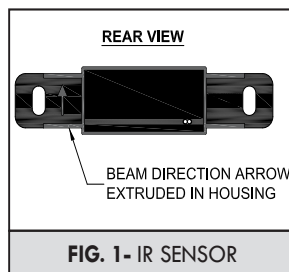

FIG. 1- IR SENSOR
- 3) Install the new sensor. Make sure the sensor arrow is pointing up (SEE FIG. 1).